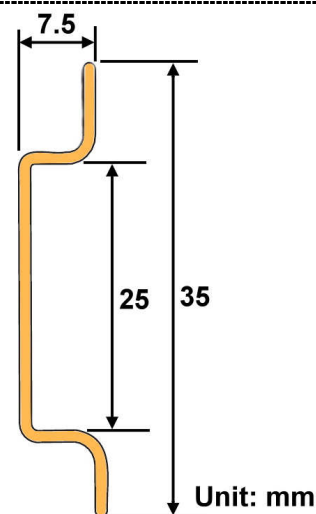

Figure 2-3
2. Please use the suitable DIN-Rail to install, please refer to the dimensions of the DIN-Rail.(Figure 2-3)